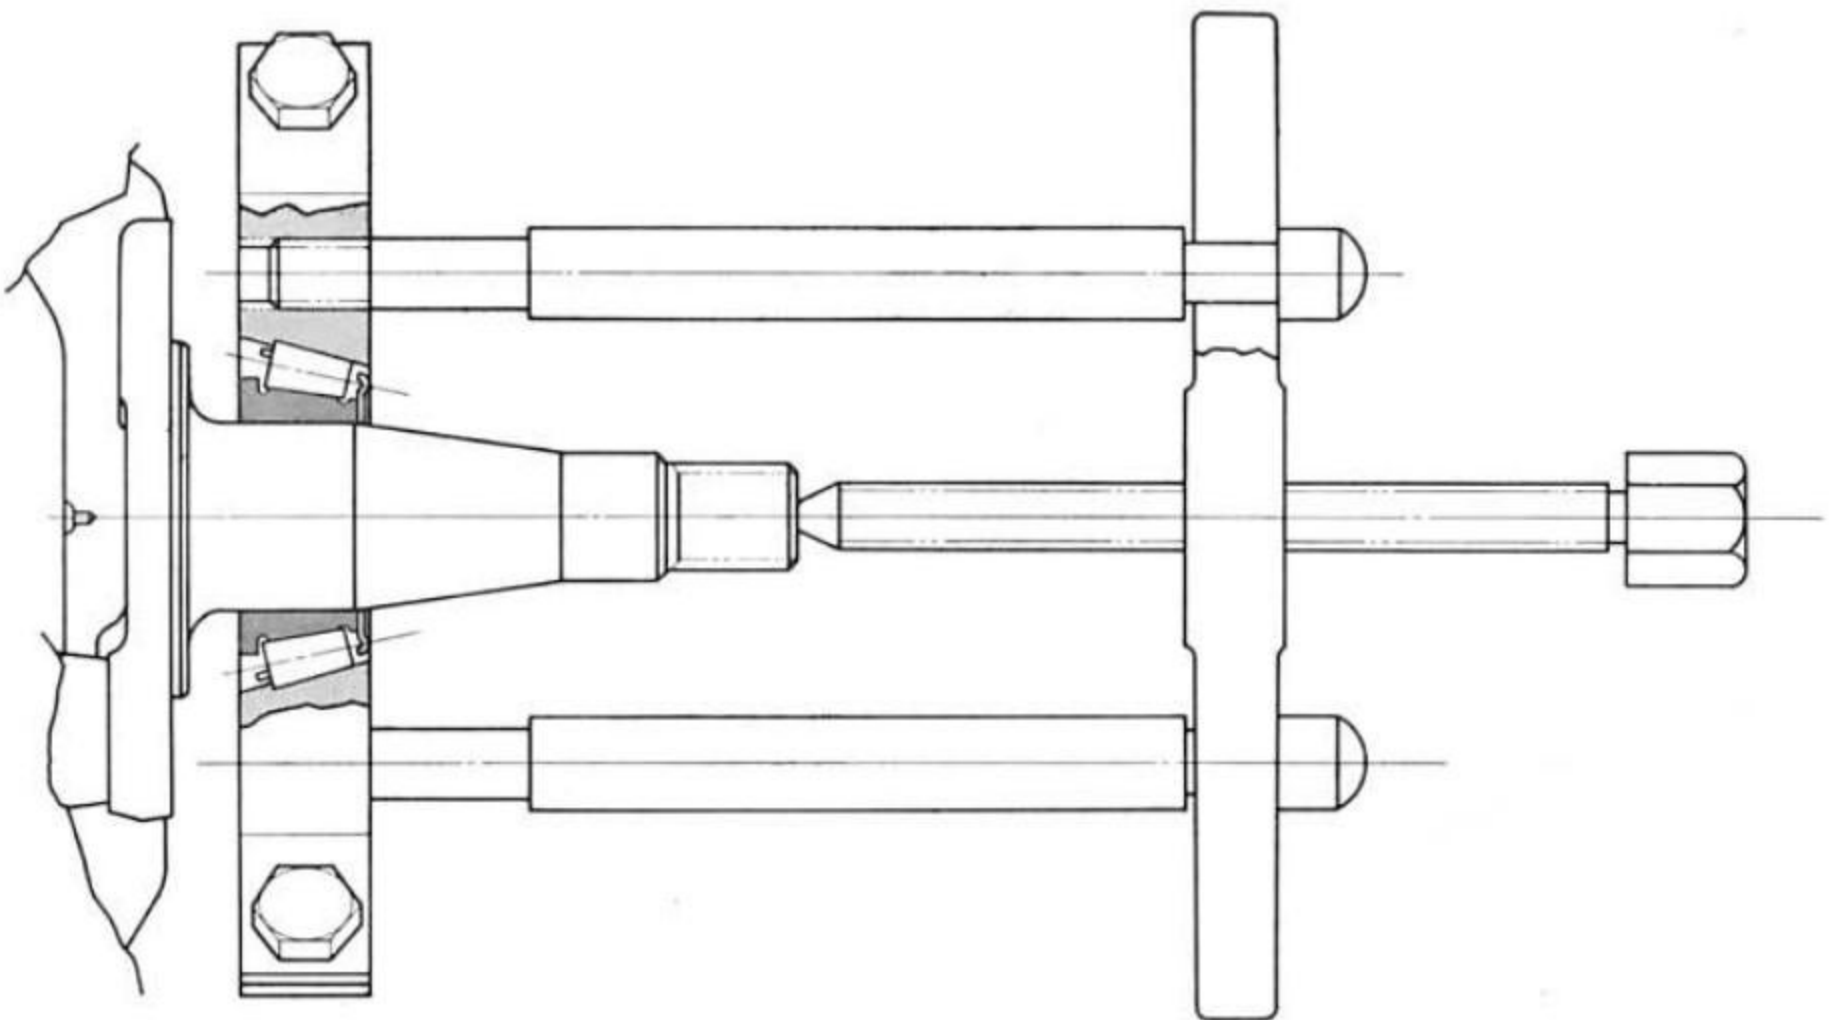

Fig. 15A-6
- Remove the bolt, washer, stabilizer holder and disassemble the stabilizer bar from the radius rod (Fig. 15A-7).